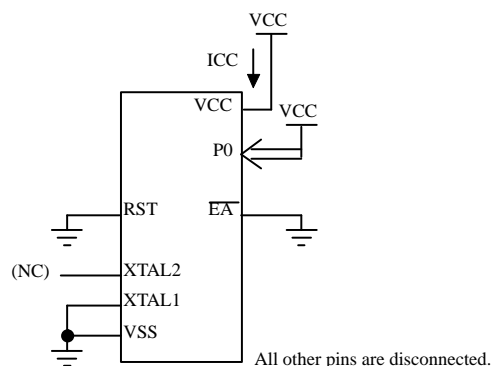

Figure 21. ICC Test Condition, Power Down Mode.
3. Power Down ICC is measured with all output pins disconnected; EA = PORT 0 = VCC; XTAL2 NC.; RST = VSS (see Figure 21.).